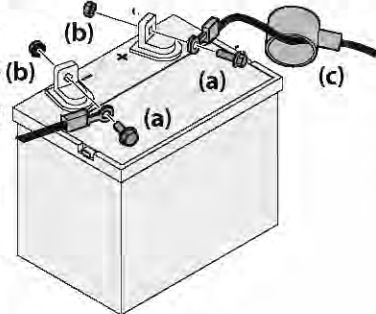

Figure 21
1. If present, remove the plastic cover from the positive battery cable. Attach the red connector to the positive battery terminal (+) using the bolt (a) and hex nut (b). See Figure 21.
2. If present, remove the plastic cover from the negative battery terminal and attach the black cable to the negative battery terminal (-) with the bolt (a) and hex nut (b). See Figure 21.